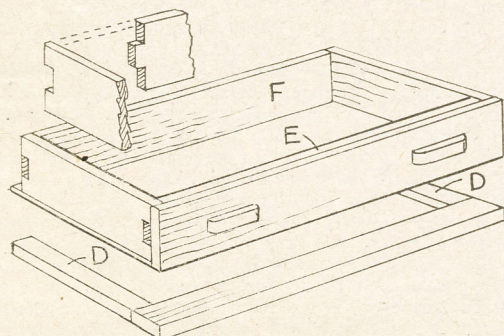
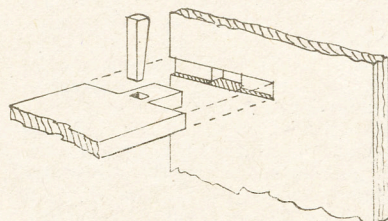
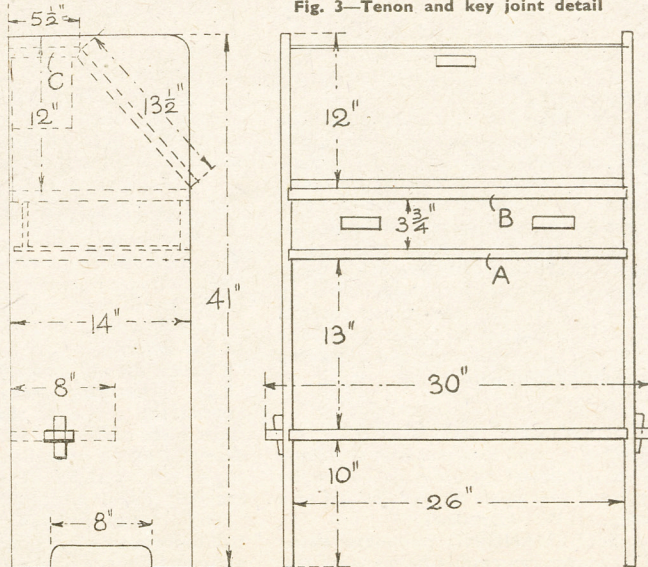

Fig. 4—Construction of drawer and framework
Fig. 3—Tenon and key joint detail
Fig. 2—Side and front view giving details and dimensions of parts
Sheets of newspaper are arranged in a triangular form, as shown in Fig. 2. There should be two or three thicknesses. The front point is then brought up over the instep, as in Fig. 3, and finally the other two corners are brought over, giving the result as at Fig. 4.
Wood $\frac{5}{8}$ in. or $\frac{3}{4}$ in. thick should be used for the main carcase of the bureau, with $\frac{1}{2}$ in. stuff for certain parts of the drawer and $\frac{1}{4}$ in. wood for the interior compartments. There is no need to describe the construction of the bureau in detail, because the front view and side view given in Fig. 2 show all the parts plainly.
A small mortise is next cut in each end upright measuring $2\frac{1}{4}$ ins. long and $\frac{1}{2}$ in. wide to receive the tenon on the end lower shelf, see side view Fig. 2. The position of the mortise needs carefully setting out and checking on each upright for height and back measurement.
being $13\frac{1}{2}$ ins., while (C) is $5\frac{1}{2}$ ins. The extreme lower cross rail or shelf will be 30 ins. long, its width 8 ins. Mark off $1\frac{1}{2}$ ins. from each end of the shelf and set out the projecting tenons and the square holes to take the keys. All this is shown in the detail Fig. 3.
It should be stated that the front edge of top shelf (C) must be planed to a chamfer, as seen in Fig. 2, to allow the falling front to rest upon it at the right angle. Before actually gluing the various parts, test the shelves and their housings and the mortise and tenons of the lower shelf. Apply glue to the ends of the lower shelf and wedge up securely with the wedge-shaped keys.
The middle rail (A), it will be noted from the diagram Fig. 4, is not a wide rail like its neighbour (B) above, but merely consists of a narrow board
The drawer is made as shown in Fig. 4. The front will be 26 ins. long by 3½ ins. wide by ¾ in. thick. The drawer sides are 12½ ins. long, 3½ ins. wide and ¾ in. thick.
The inner front and the back, pieces (E) and (F) respectively, are 26 ins. long by 3½ ins. wide and ¾ in. thick. The four pieces forming, as it were, the inside frame of the drawer, are lapped together at the angles and glued up, as in the enlarged detail in Fig. 4.